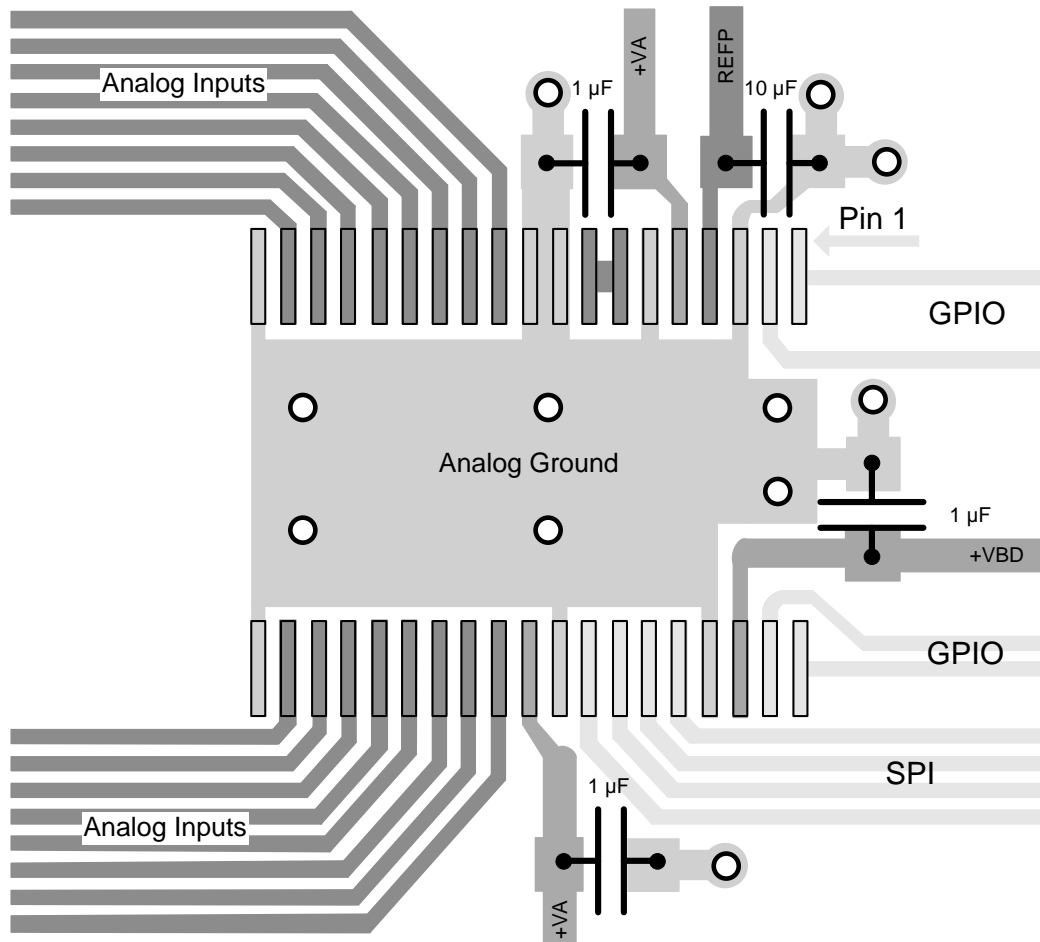
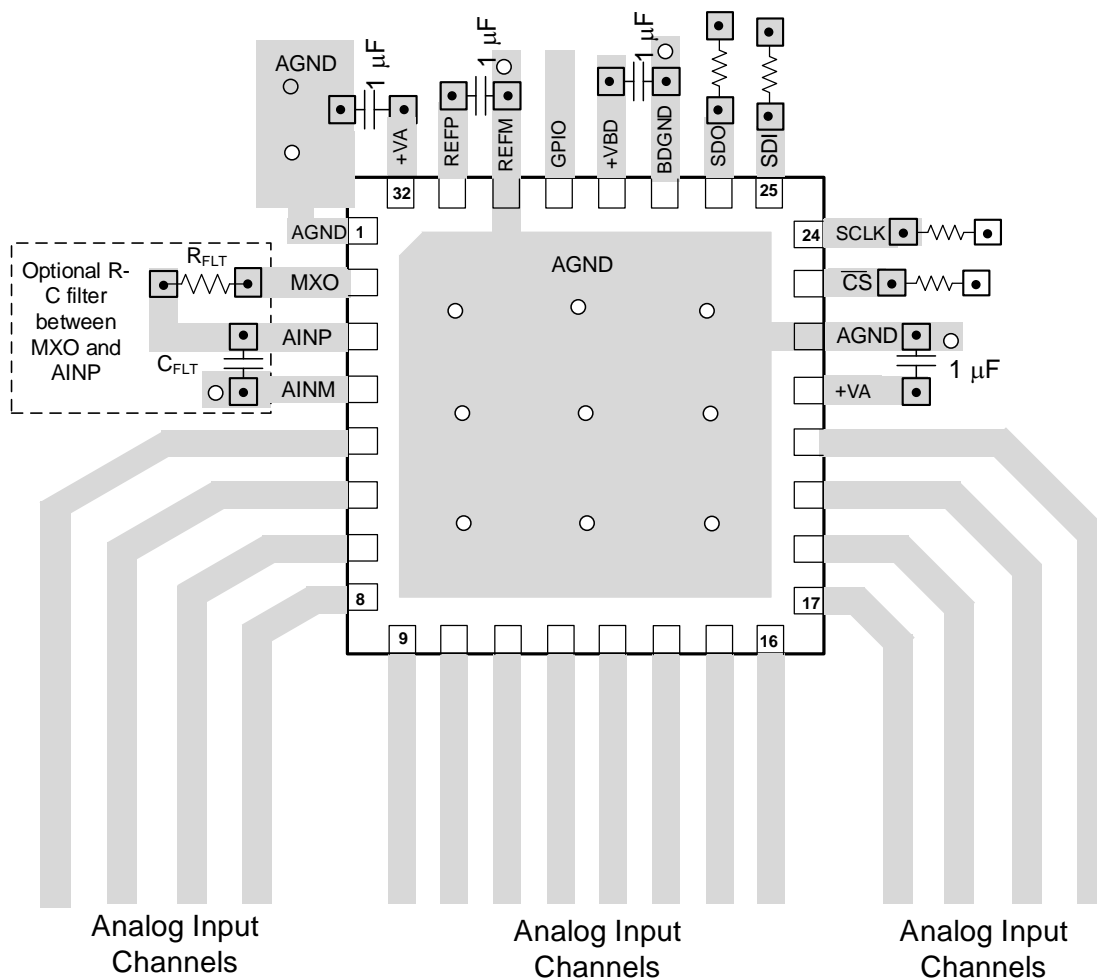

Figure 69. Recommended Layout for the TSSOP Packaged Device
Figure 70. Recommended Layout for the VQFN Packaged Device
- The power sources must be clean and properly decoupled by placing a capacitor close to each of the three supply pins, as shown in Figure 69 and Figure 70. To minimize ground inductance, ensure that each capacitor ground pin is connected to a grounding via by a very short and thick trace.
- The REFP pin requires a 10- μ F ceramic capacitor to meet performance specifications. Place the capacitor directly next to the device. This capacitor ground pin must be routed to the REFM pin by a very short trace, as shown in Figure 69 and Figure 70.
The full-power bandwidth of the converter makes the ADC sensitive to high frequencies in digital lines. Organize components in the PCB by keeping digital lines apart from the analog signal paths. This design configuration is critical to minimize crosstalk. For example, in Figure 69, input drivers are expected to be on the left of the converter and the microcontroller on the right.